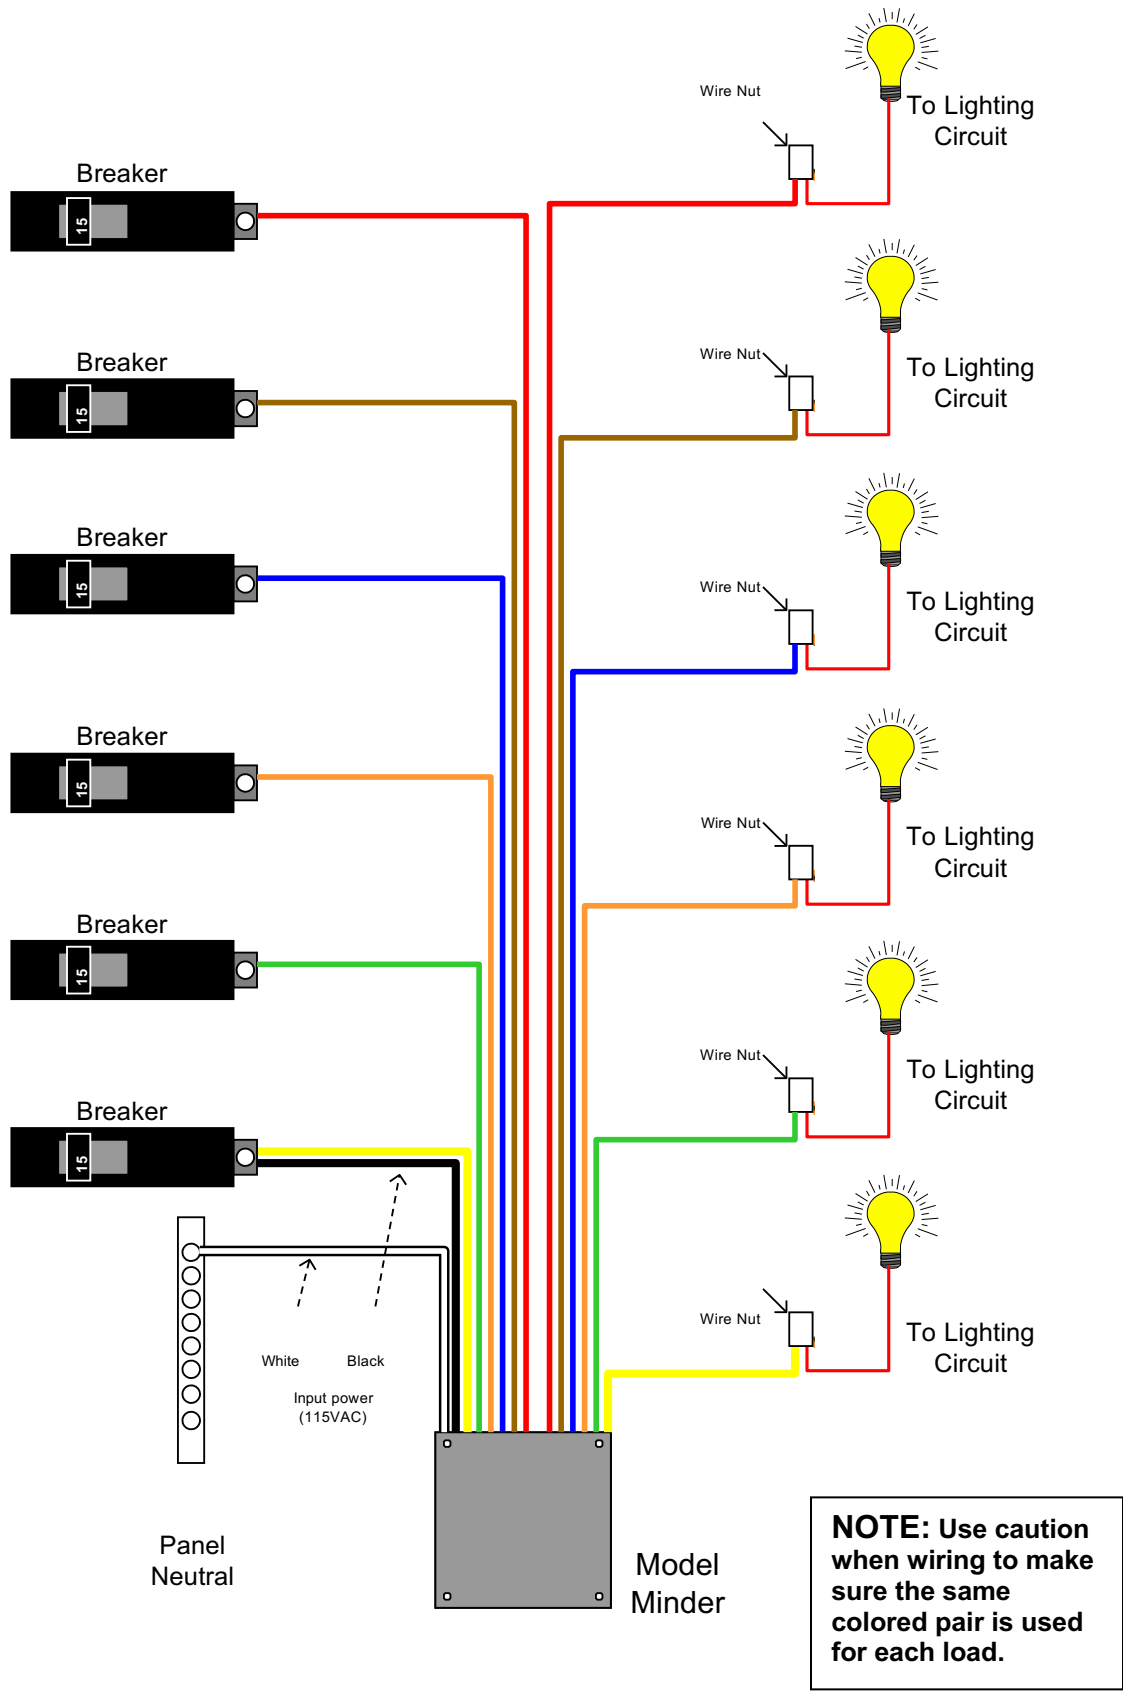

Figure 3.5: Complete Wiring
- g. Check all wiring. (Figure 3.5)
- h. Check all wiring. (Figure 3.5)